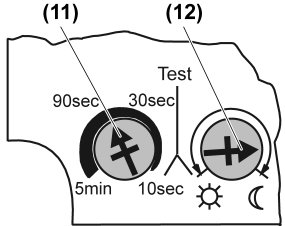

Figure 5: Setting the follow-up time and the brightness threshold
On the rear side of the housing cover of the motion detector, there is one adjuster each for the follow-up time (11) and the brightness threshold (12) (Figure 5).
- Set the required follow-up time using the adjuster (11).
- Set the required brightness threshold with the adjuster (12). The ☼ icon stands for Day mode, i.e. switching independent of brightness, and the ☾ icon for minimum brightness.
- i Should the device need to switch at the start of twilight, then set the adjuster (12) as shown in (Figure 5).